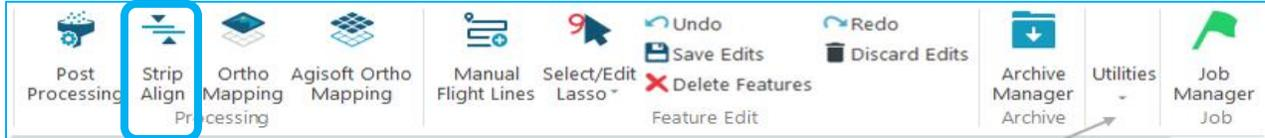
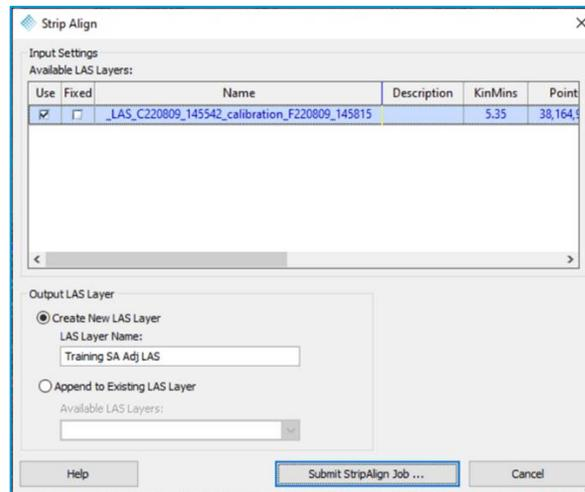

Figure 102 - Strip Align on the Sensor tab
Figure 103 – Strip Align dialog
2. Select **Strip Align**  on the Sensor tab (Figure 102) to open the Strip Align dialog (Figure 103).